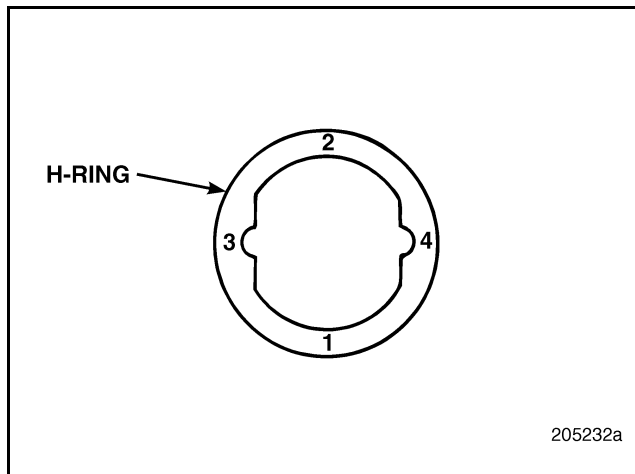

Figure 324 — Alternating Pattern for H-Ring
6. Place a long screwdriver or long piece of drill rod on the H-ring top surface and using a cross-alternating pattern as shown in Figure 324, carefully tap the H-ring back into place. The depth should match that of the adjacent unaffected cylinder as marked previously on the welding rod.